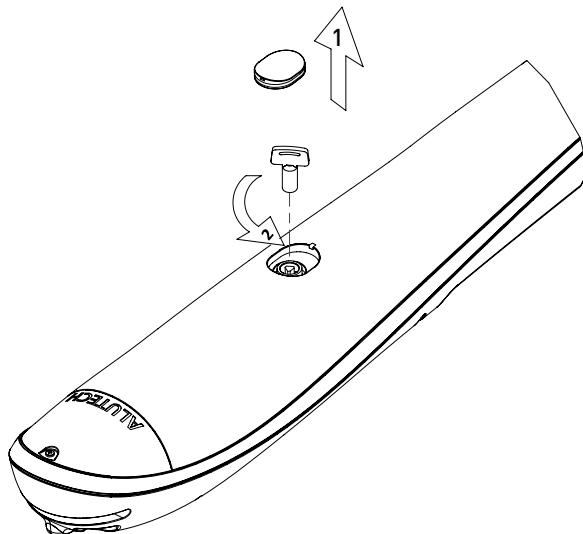

Figure 15. Manual release
To release the drive (fig. 15), use the special key supplied with the drive kit. Turn the key to $\sim 180^\circ$ towards the **OPEN** label. To return the drive to the locked (engaged) state, turn the key towards the **CLOSE** label. Once you have locked it, move the leaf manually, slowly, without shocks or impacts until you hear a distinctive engagement click.
- Release the drive as shown in fig. 15.